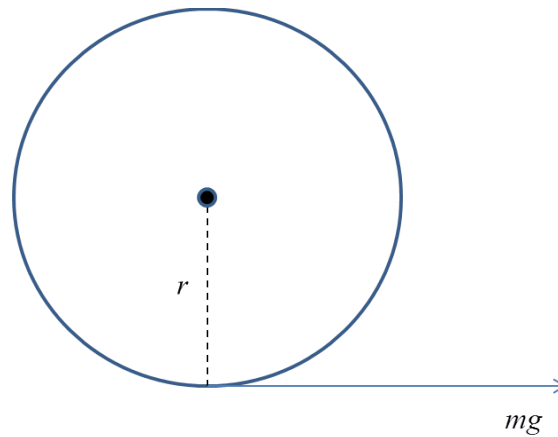

Figure 13.3
where  $mg$  is the gravitational force, or weight, of the mass. The mass should be in kg, and the radius in m. This torque is illustrated by the top view shown in Figure 13.3.
- 9) **Calculate** the mean of your ten accelerations. Then, use this mean to calculate an angular acceleration of the hub/platform (see Figure 13.3 and the Goals and Introduction for help thinking through this).
acceleration of the hub/platform/disk, in radians per second-squared ( $\text{rad/s}^2$ ). Recall that the diameter of the drum is 0.59 m. *[Hint: see Steps 9-12 of the Procedure and consider Figure 13.3 in the lab].*
PL-3) Calculate the amount of torque, in N·m, that the cable exerts on the hub/platform/disk in the previous example. Recall the mass of the Beetle is 826 kg and the diameter of the drum is 0.59 m. *[Hint: see Steps 9-12 of the Procedure and consider Figure 13.3 in the lab].*